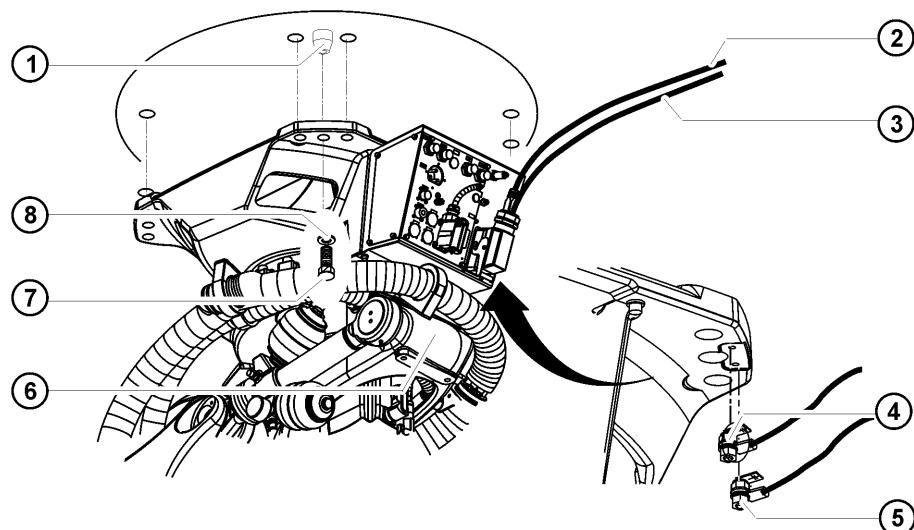

Fig. 8-3: Installing the robot
1. Check that both pins (>>> Fig. 8-3) (1) are undamaged and fitted securely.